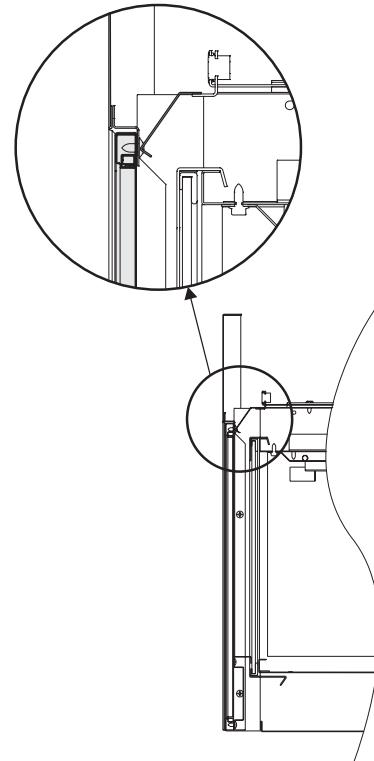

Figure 23
3. Once the lower return flange on the back of the barrier is place against the glass door fame, gently lift the barrier screen up about 3/8 of an inch, push inward on the barrier, then release and lock the lower return flange between the door glass and lower door frame. **See Figure 23.**